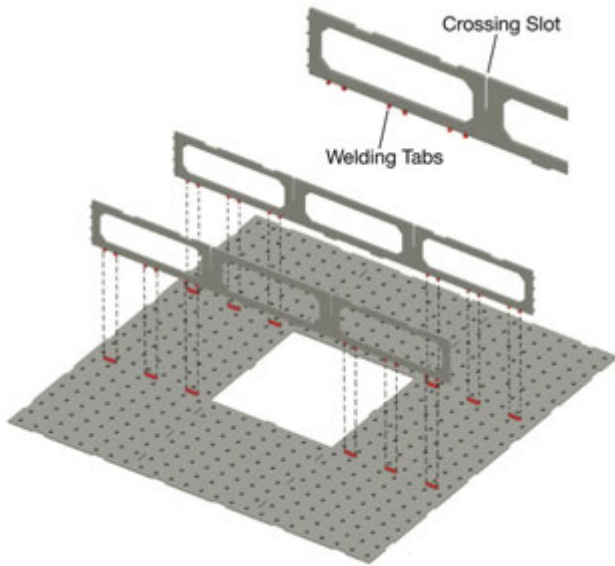

Figure 5-1
1. Lay welding table top (item #1) on a flat surface. Place two support frames (item #4) onto the table top as shown in Figure 5-1. NOTE: Make sure to use the two support frames where the crossing slot openings are on the opposite side of the support frame from the welding tabs (see Figure 5-1). Insert the support frame welding tabs into the welding slots on the table top.